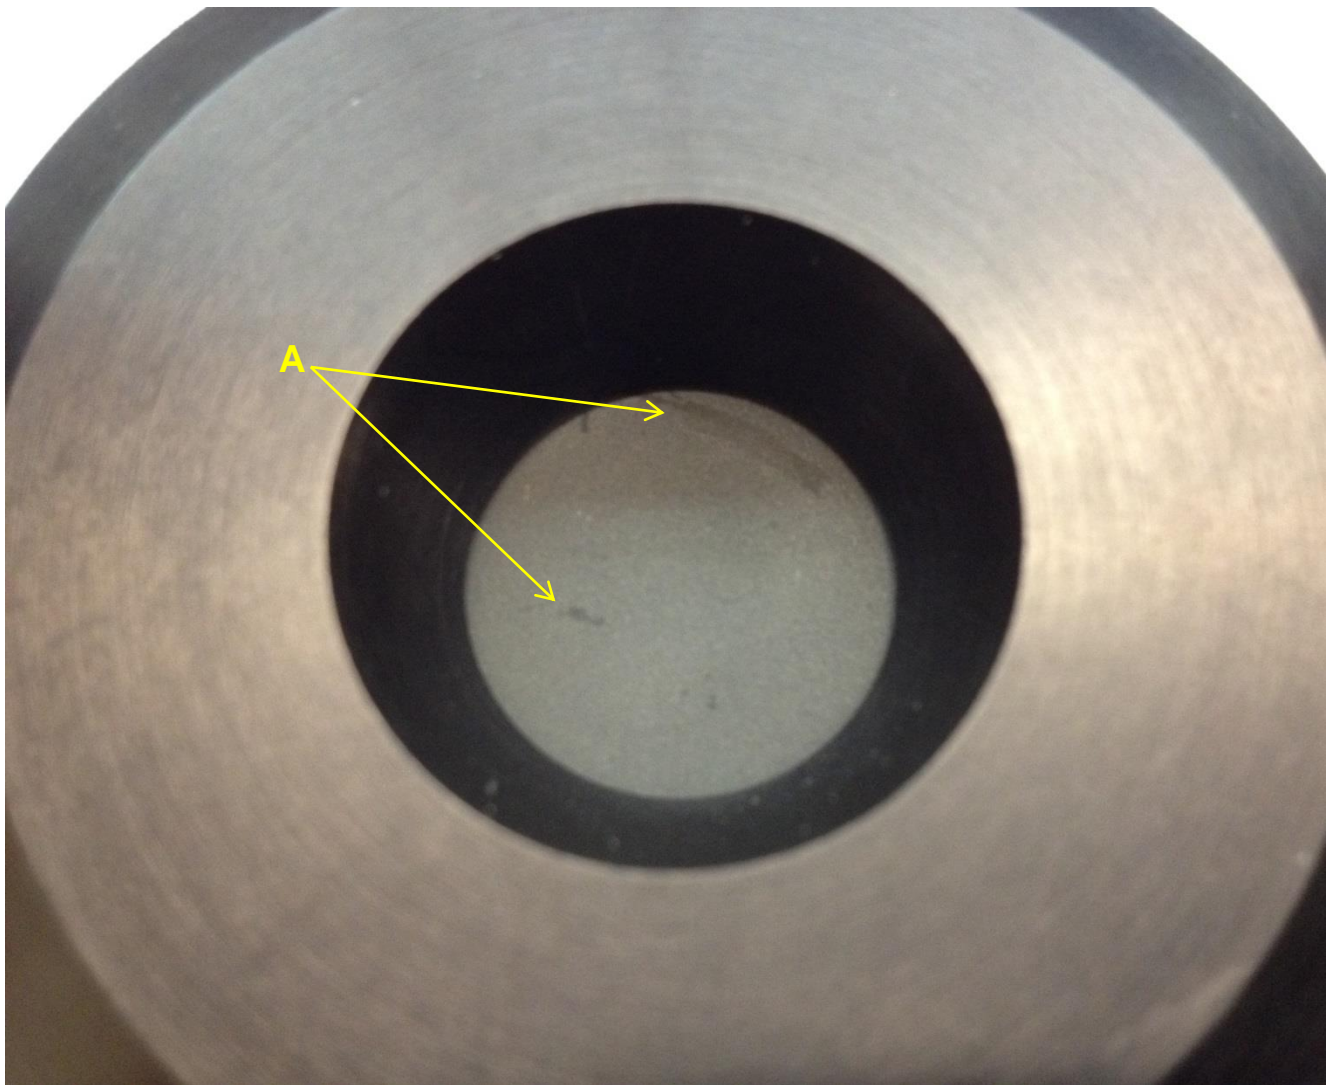

Figure 7: Streaks on Thermopile Caused by Contamination
- g. Figure 7: Streaks on Thermopile Caused by Contamination